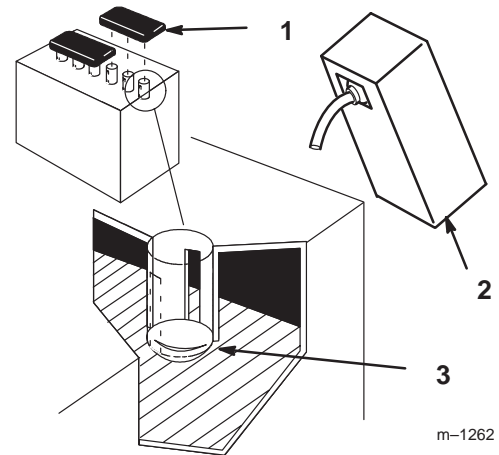

Figure 5
7. Remove filler caps from the battery. Slowly pour electrolyte into each cell until the electrolyte level is up to the lower part of the tube (Fig. 5).
- Slowly pour electrolyte into each cell until the level is once again up to the lower part of the tube in the battery case and install covers (Fig. 5).